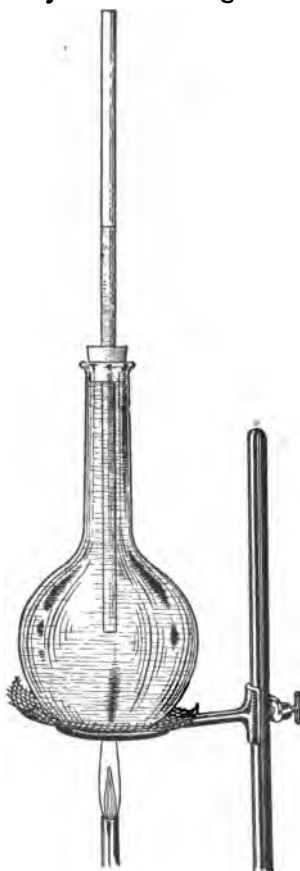

FIG. 147. When the water is heated it expands and is forced upward into the tube.
**Exercise 2.** Arrange a flask as shown in Figure 147. Fill it full of water and stopper it, so that the water rises part way into the tube. Now heat the water. What results do you get?